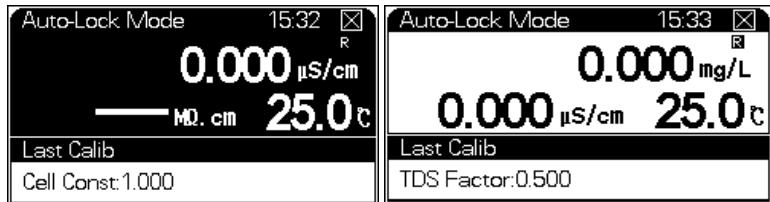

Figure 23 Viewing parameters while measuring
- 1 While performing a measurement, press [**Mode**] to conveniently view other parameter values. The screen display highlights the measuring window as shown in Figure 23.